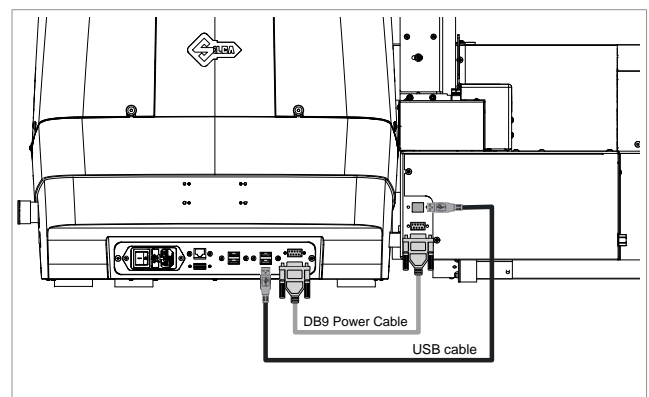

Fig. 34
- 4) Connect the USB and power cables to the machine and feeder (Fig. 34).